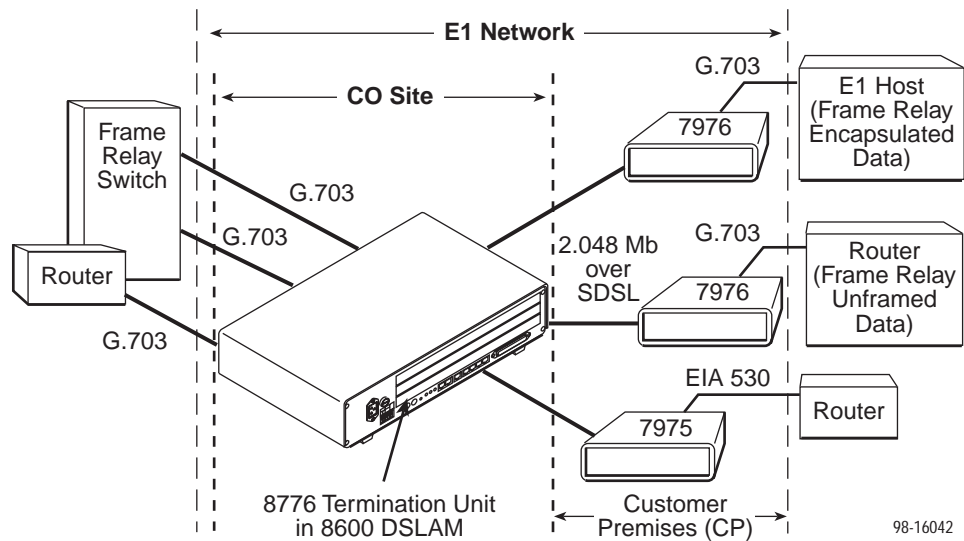

Figure 1-1. Sample Configuration
Figure 1-1 shows an E1 network application using an 8776 M/SDSL Termination Unit for access concentration in a central office (CO). A frame relay switch and a router are connected, through the termination unit, to partner units supporting an E1 host or router, and frame relay encapsulated or unframed data.